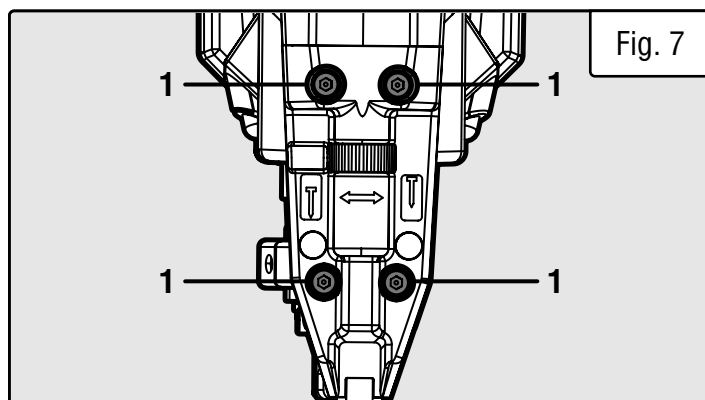

Fig. 7
4. Use the included hex wrench to loosen the four screws (Fig. 7 - 1) on the nose of the nailer and remove the nose cover.